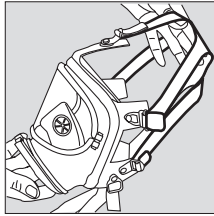

Fig. 2
- Fully extend (open) the straps of the head harness (Fig. 2).